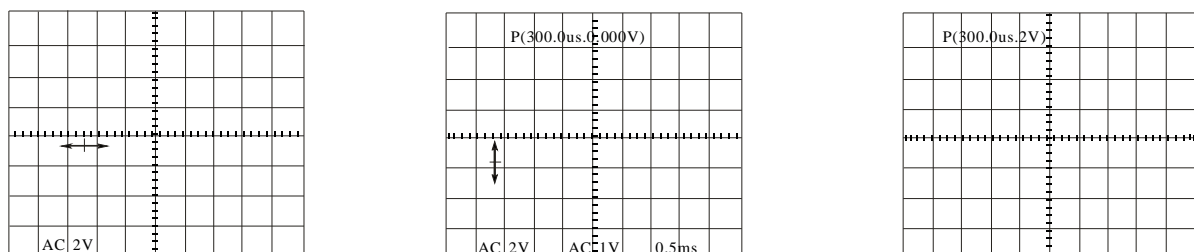

Fig.5.7
5.2.3 P(t,v) measurement (Fig.5-7)